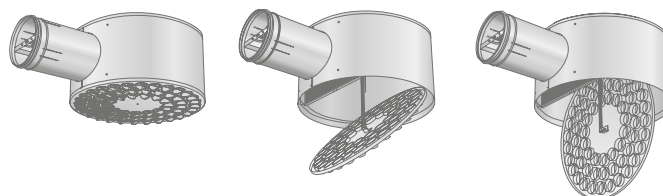

Figure 2. Spring-loaded diffuser front.
- The duct system can be accessed by lightly pulling the spring-loaded diffuser front downwards and then tilting, see figure 2.